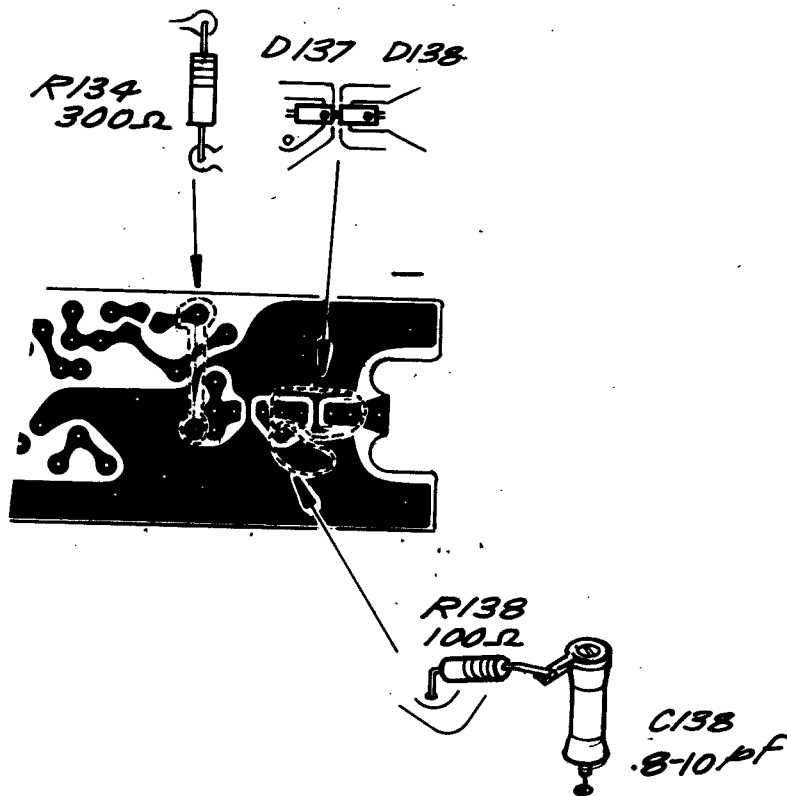

FIG. 2
TO REPLACE D137-D138 ON THE - FAST RISE OUTPUT BOARD. SEE FIG. 2.
- () 7.⊕ Install D137-D138, two clip mounted silicon diodes. Install with cathodes (dots) as shown in Fig. 2.